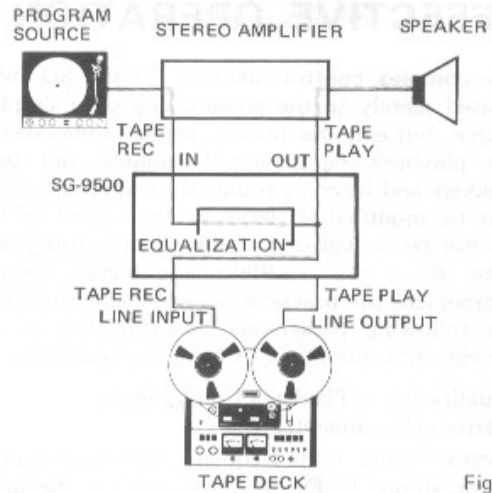

Fig. 6
**EQUALIZING PROGRAM SOURCE WHILE SIMULTANEOUSLY LISTENING WITH SPEAKERS AND RECORDING ON TAPE (Fig. 6)**